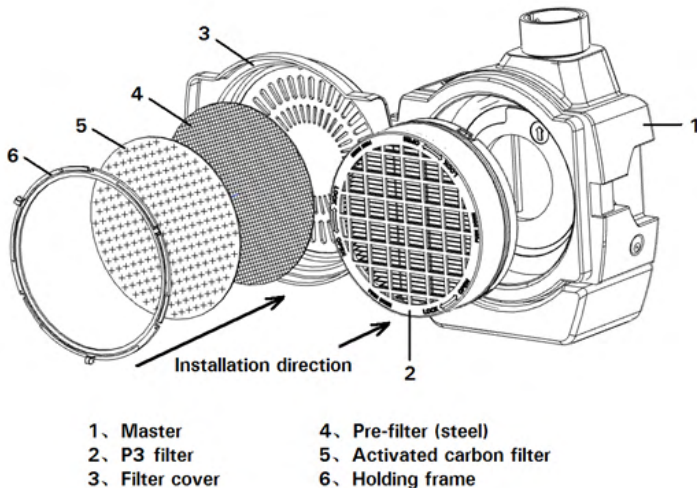

Fig1
- Blower master unit provided with a dust P3 filter, a steel pre-filter and an activated carbon filter (Fig1), supplied with a belt and a comfort plate.
The pre-filter and the activated carbon filter should be installed on the inner side of the upper cover, assembled in the order and direction indicated in Figure 1, and then pressed by the frame.